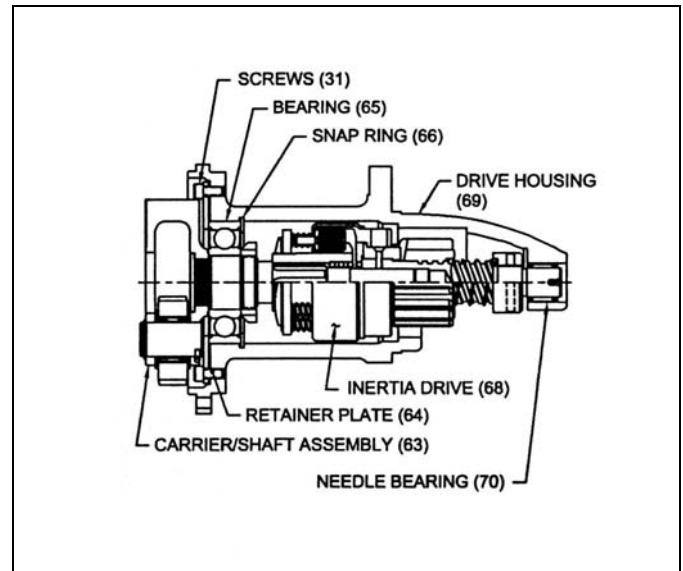

Figure 28. Gearbox/Drive Housing Installation (T106F/T112F)
Align carrier shaft assembly (63) into bendix drive and push assembly until seated against snap ring (66) per Figure 28.